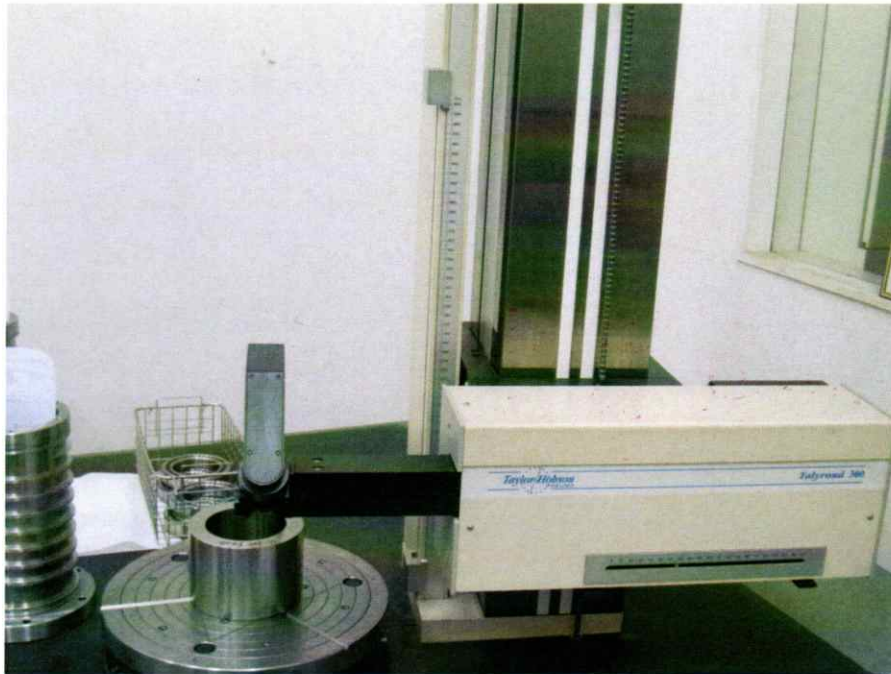
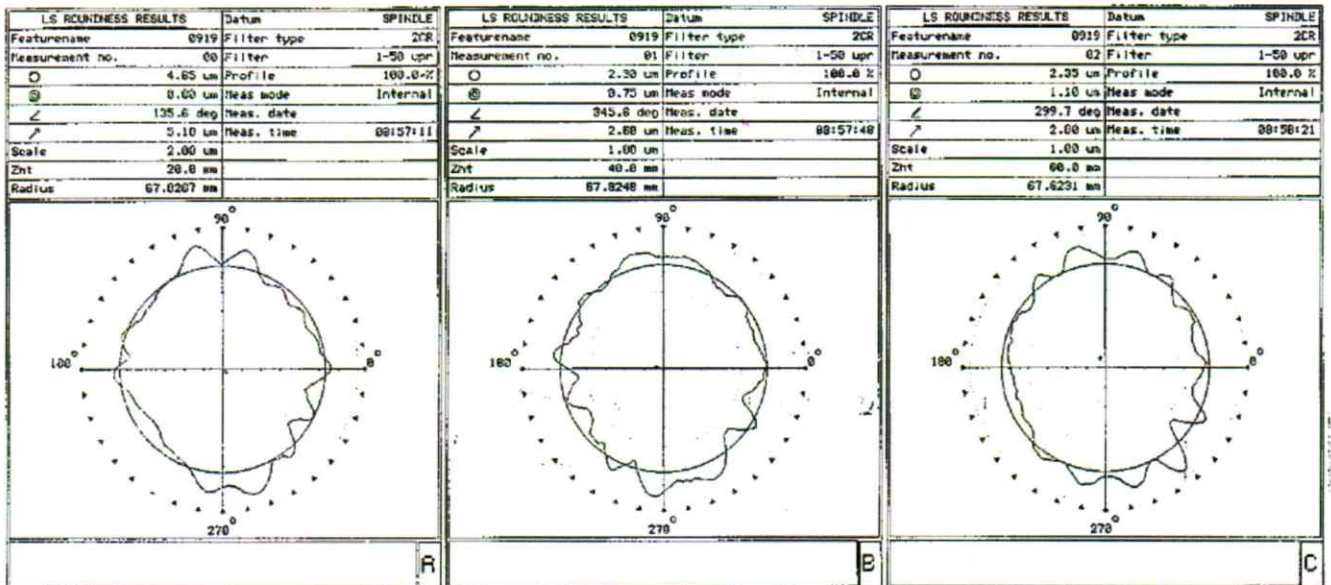

Figure 3-1-6 Actual measurement of machining roundness of the workpiece
Figure 3-1-7 Measurement result of machining roundness of the workpiece
- (1) Activate the executive software and measurement hardware of the roundness measuring machine.
- (2) Fix the workpiece onto the measurement table of the roundness measuring machine with the magnetic base (as shown in Figure 3-1-6).
- (3) Set the measurement parameters of the roundness machine. The major measurement parameters are measurement diameter of the workpiece, cut-off value and algorithm. The measurement diameter is 80mm, and the algorithm to get the value of roundness is the least-squares circle (LSC).
- (4) After the adjustment of the center and level of the workpiece, start measuring the Machining roundness of the workpiece and record the measurement result. The measurement locations are the ones that are 20mm, 40mm, and 60mm from the end of the workpiece (that is, the machining depth 20mm, 40mm, and 60mm).
- (5) The results of machining roundness of the workpiece (as shown in Figure 3-1-7) are: